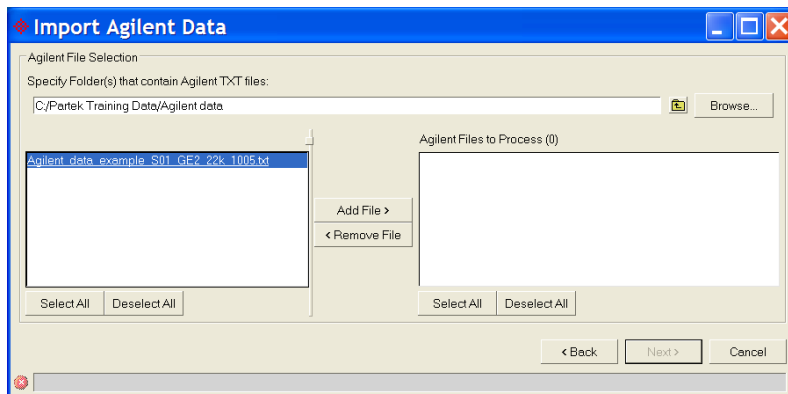

Figure 2: Specifying folders that contain Agilent text files
- The second *Import Agilent Data* dialog box will appear as shown below (Figure 2)